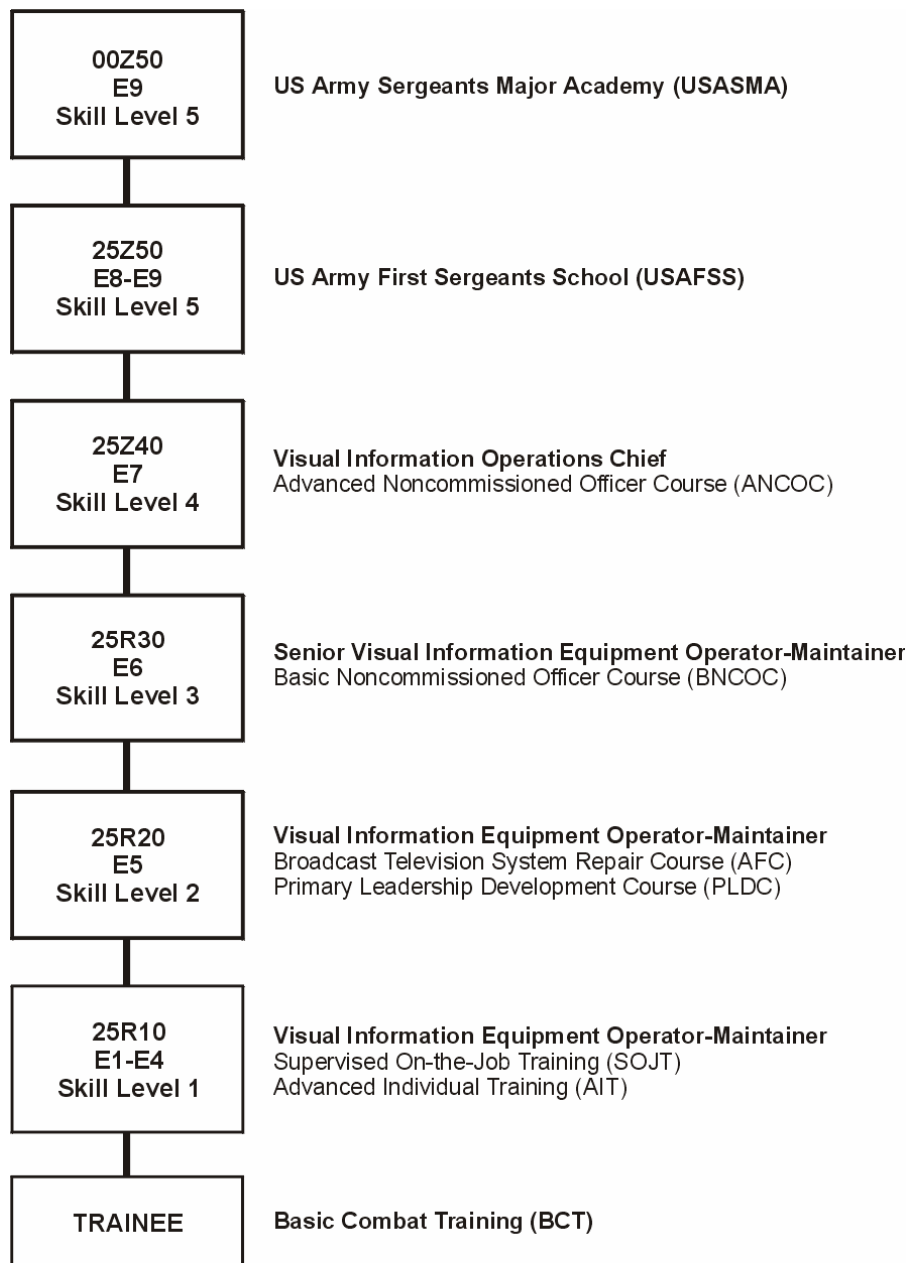

Figure 1-1. Skill Level and Training Progression, MOS 25R
- b. The EPMS is a management system to improve the professionalism of the enlisted ranks. Successful soldiers perform assigned duties efficiently, take advantage of opportunities for training and promotion, and establish career goals. EPMS provides a logical career development path by establishing a system of career-long training that prepares soldiers to take on duties of the next higher grade. A training program was designed for the skill levels of each MOS. This publication is an outline of that training program for MOS 25R. The skill and training progression chart for MOS 25R (Figure 1-1) shows the entry level soldier the path to follow to SL5. There are no decision points for the 25R soldier.